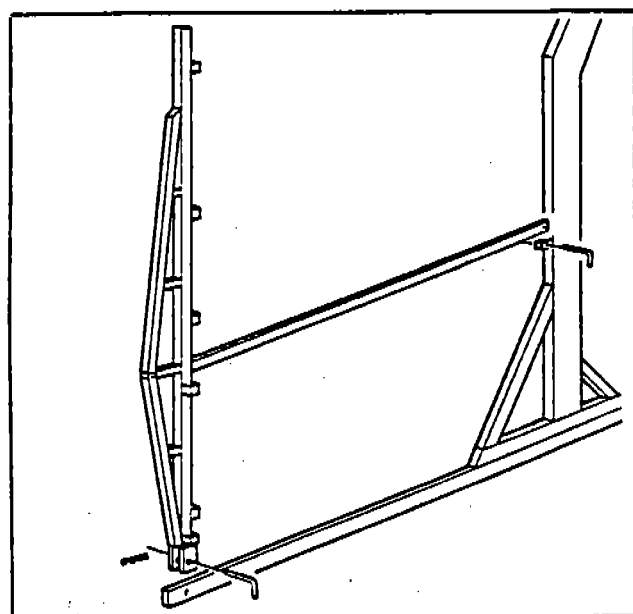

Fig. 32
- a) Matching the marks on the rail support and base rods (Fig. 32), assemble the supporting columns, securing them with pins and safety clips.
- a) Rispettando le sigle riportate su gam supporto (Fig. 32), montare i support nario e fissarli con spine e copiglie.